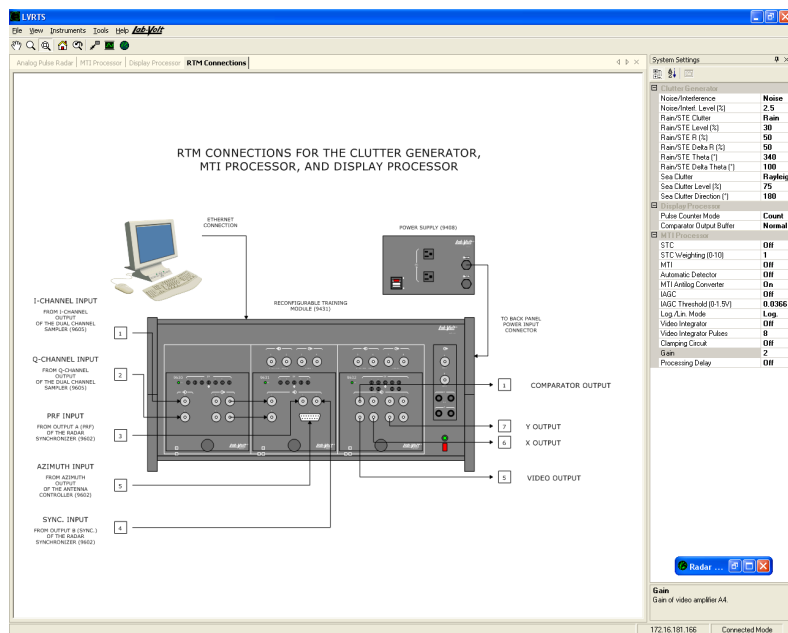

Figure 5. Window showing the interconnections to the RTM.
- Display diagrams that show how to connect the equipment (see Figure 5).